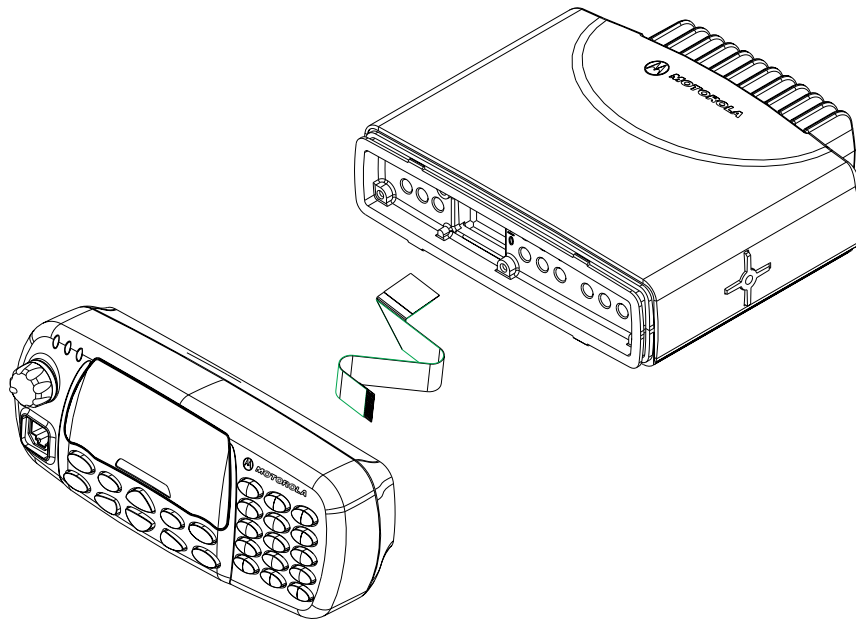

Figure 2 Flexible Connection Removal
1. Align the '**dot**' or '**O**' marking on the flex with the '**O**' mark on the chassis to the socket on the radio assembly as shown in Figure 2.